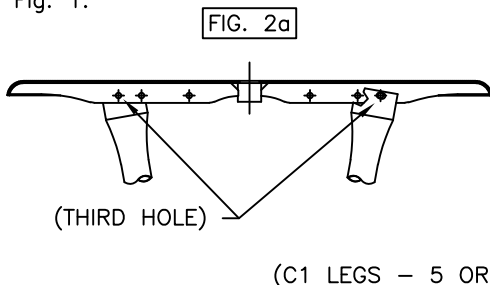

FIG. 2a
Lift the (A-) top over the top end of the legs. Bring it down, aligning the top's mounting bracket's off-set side to each leg, see FIG. 2. Rotate and attach the top to the legs using the third mounting hole location from center of the table, see FIG. 2a. Use one, per each leg, (E), (F), (H). Use two (D) per each (E).